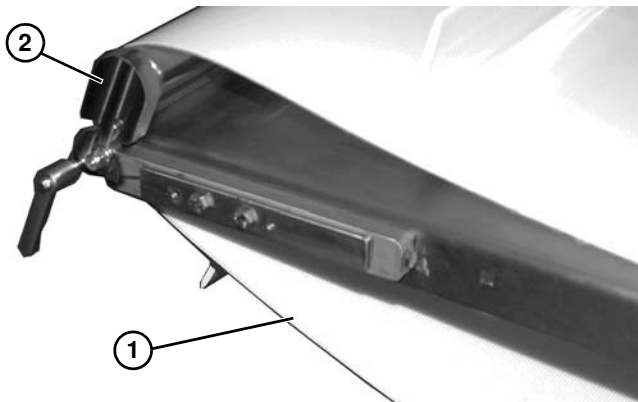

Figure 11
4. Install belt (**Figure 11, item 1**) on conveyor.
5. Lower idler end (**Figure 11, item 2**).